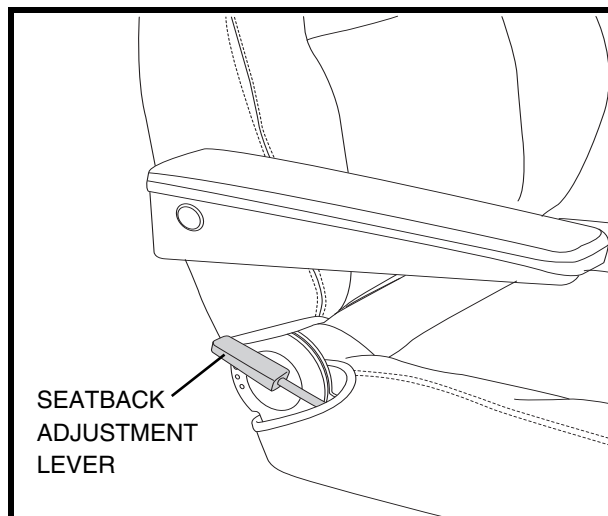

Figure 15. Seatback Adjustment
**To adjust your scooter's reclining seat, perform these steps. See figure 15.**